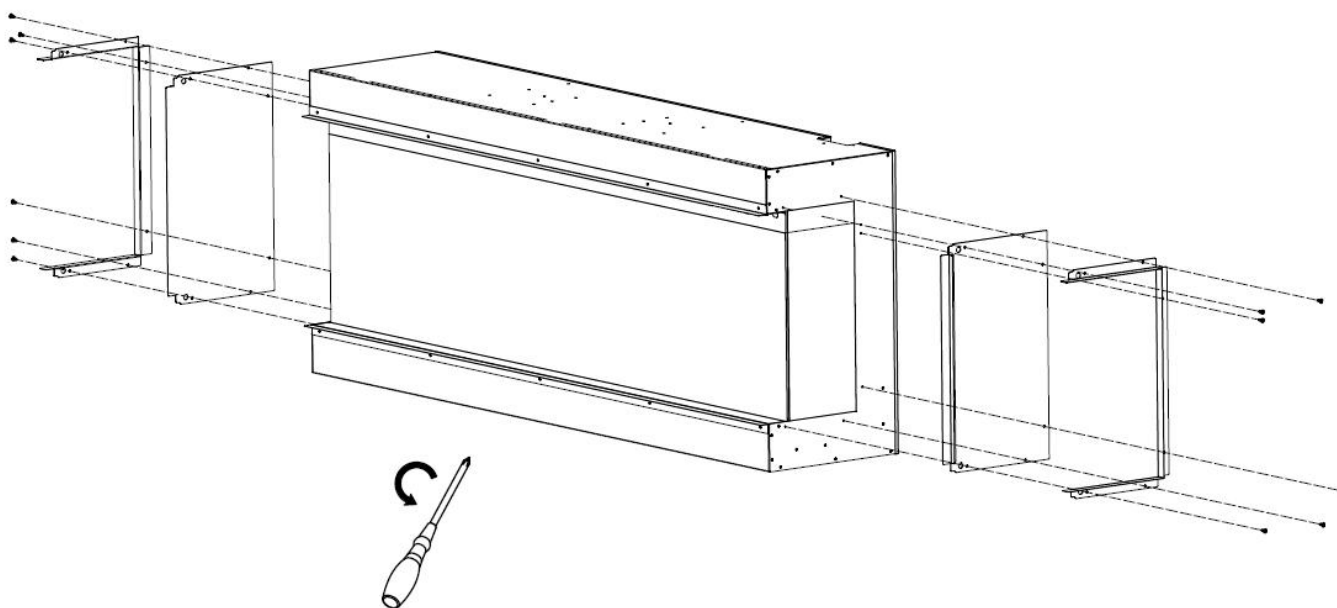

Fig.2-3
2.Take off the fending bars and panels if you want to view the fire from three sides. Fig.2-3